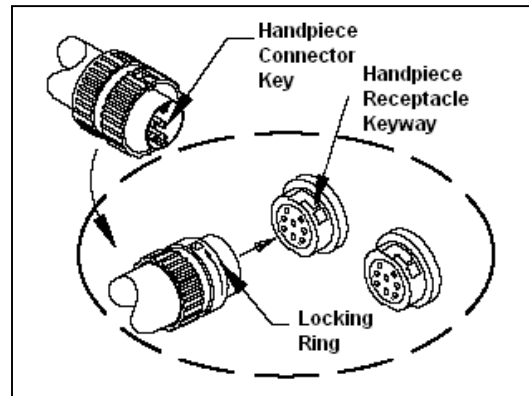

Figure 3a
6. Connect blue handpiece connector plug(s) to the blue power receptacle(s) **CH 1**, **CH 2** and/or **CH 3** in the following manner. See Fig. 3a.